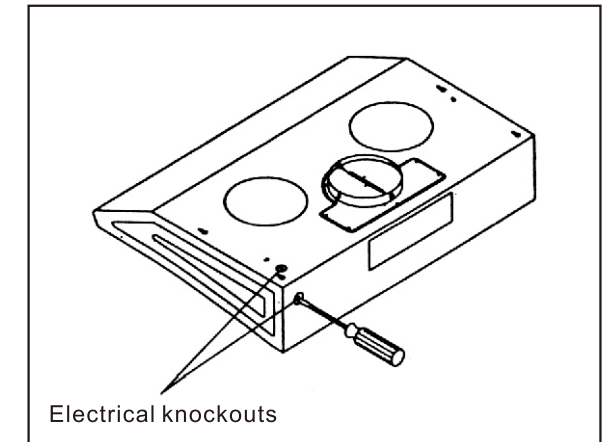
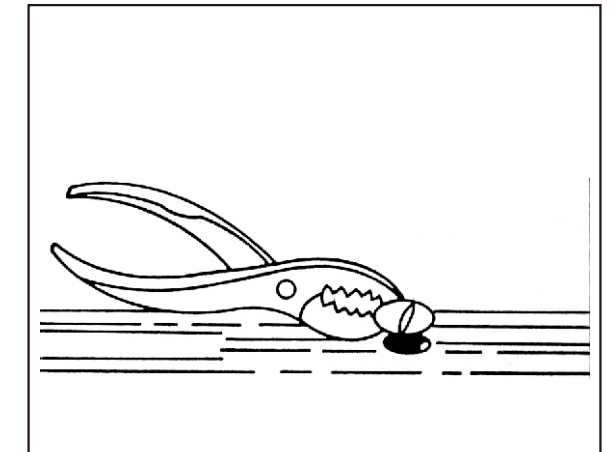

Fig.6 Electrical knockouts
Fig.7 Remove the electrical knockouts
1. Remove the top or the rear electrical knockout according to the input of the power cable. (Fig.6)
2. Loosen the knockout with a screwdriver and use pliers to pull out the loosened knockout. (Fig.6 & Fig.7)